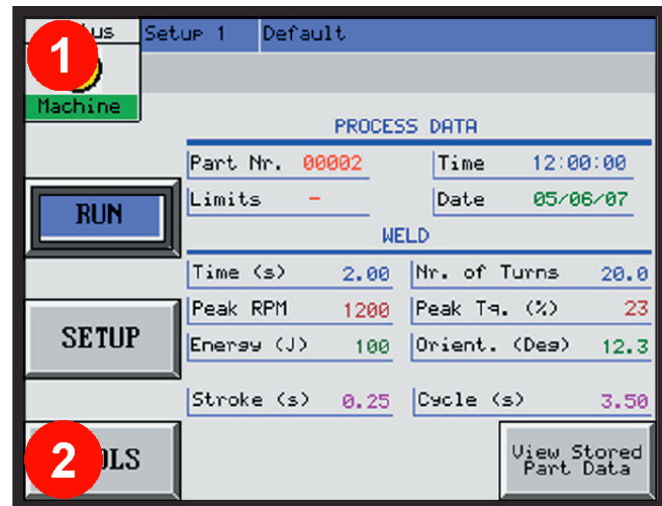
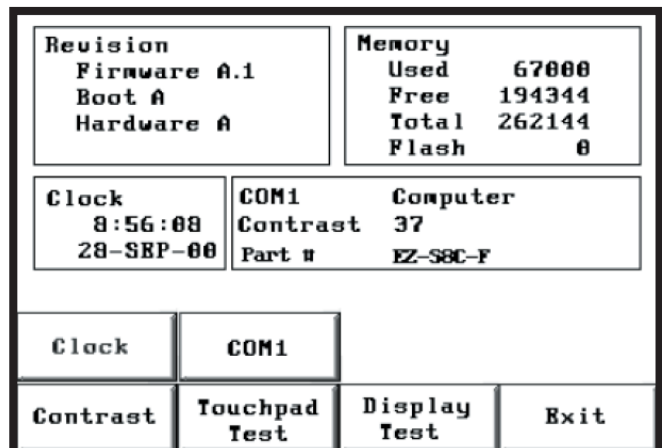

Figure 5-37 Touch Screen - Time and Date 1
Figure 5-38 Touch Screen - Time and Date 2
1. Press the upper left-hand corner (marked by 1 in Figure 5-37) and lower left-hand corner (marked by 2) at the same time. The screen shown in Figure 5-38 should appear.